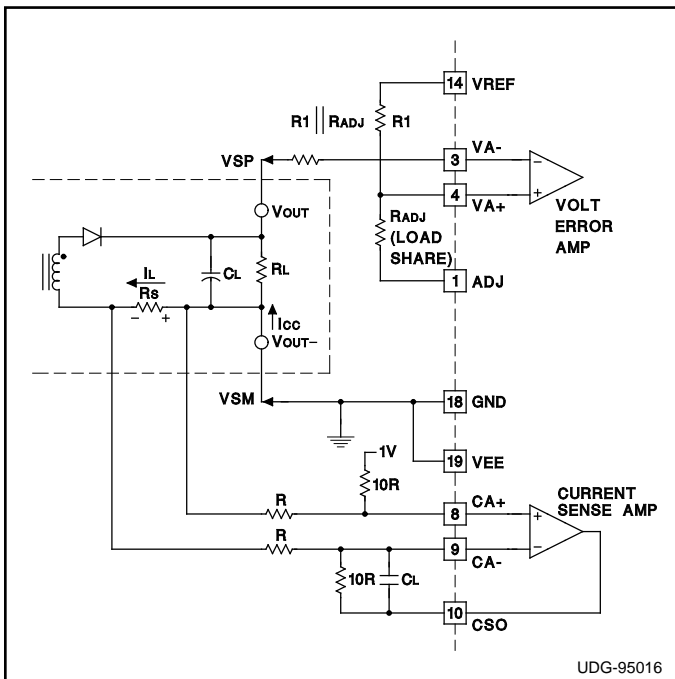

Figure 4. Voltage and Current Sense VEE Tied to GND
**Grounds, Voltage Sensing and Current Sensing:** The voltage is sensed directly at the load. Proper load sharing requires the same sensed voltage for each power supply connected in parallel. Referring to Figure 4, the
Figure 4 shows one recommended voltage and current sensing scheme when VEE is connected to GND. The signal ground is the negative sense point for the output voltage and the positive sense point for the output current. VEE is the negative supply for the current sense amplifier. When it is separated from GND, it extends the current sense amplifier's common mode input voltage range to include VEE which is approximately -0.7V below ground. The resistor RADJ is used for load sharing. The unit which is the master will force VADJ to 1.0V. Therefore, the regulated voltage being sensed is actually